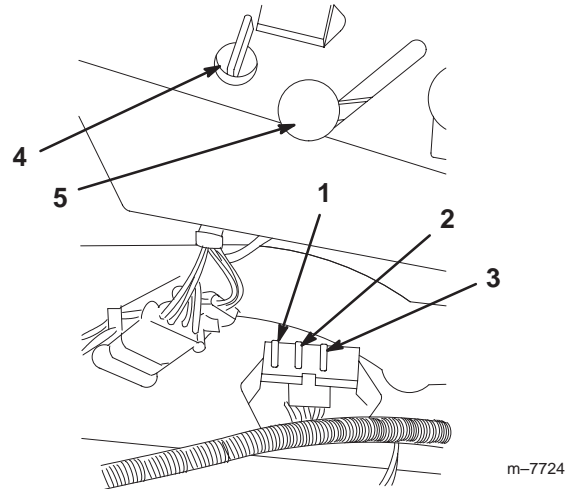

Figure 60
1. Raise the seat to gain access to the fuse holder (Fig. 60).
2. To replace a fuse, pull out on the fuse to remove it (Fig. 60).